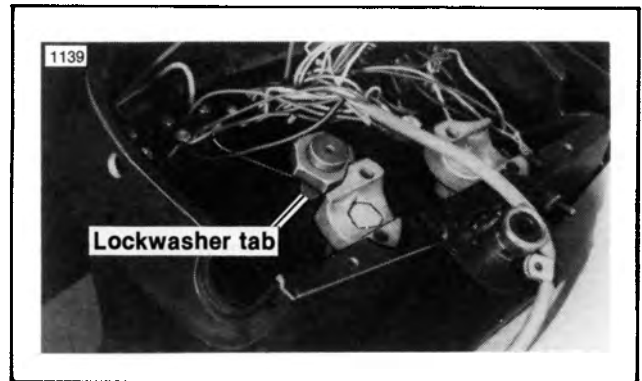

Figure 2-76. Fork Stem Nut
4. See Figure 2-76. Bend the tab away from the nut flat. Remove the nut and main circuit board.
2. See Figure 2-76. Install upper bracket. Install the circuit board so it registers. Install nut. Tighten nut to 35-40 ft-lbs torque. Bend the lockwasher tab against the nut flat.